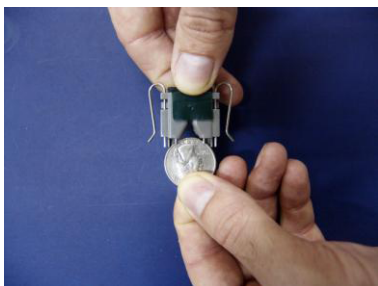

Fig 7
6. Using a screwdriver or other metallic object, carefully make a connection between the two pins on the Water Sensor (Fig 7). Indoor unit should shut down after a short delay.